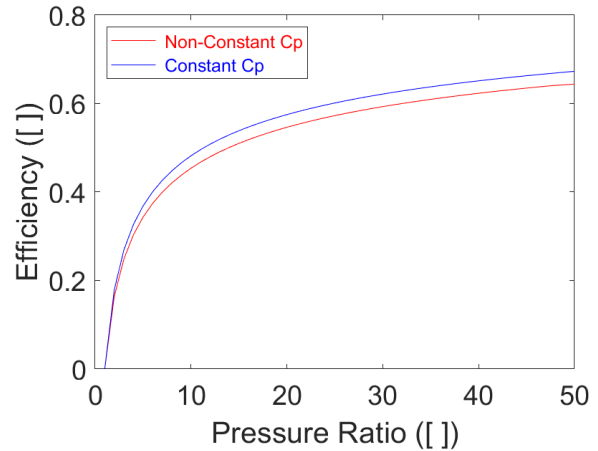

Figure 3 - Varying efficiency with changes in compressor pressure ratio
- Figure 3 illustrates the increase in efficiency of the jet engine cycle with increasing pressure up to ~40 where it begins to level out and rise very slowly because the heat added to the system rises slightly faster than the heat rejected to the system with varying temperature.